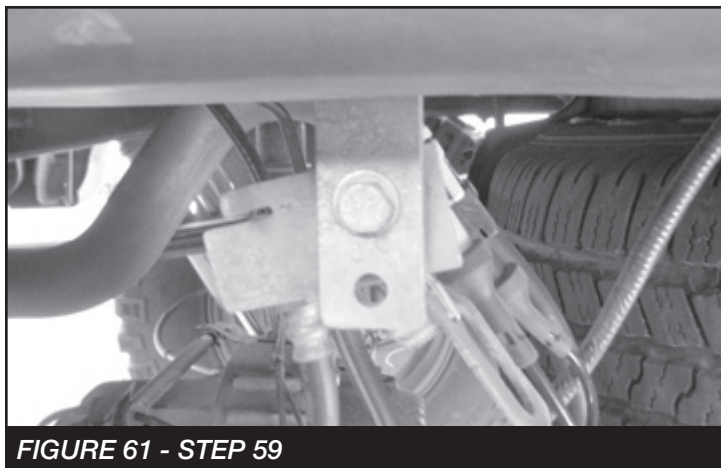

FIGURE 61 - STEP 59
59. Locate the factory brake line mount on the driver side of the frame. Locate the supplied brake line bracket (FT70033) and attach the bracket between the factory frame mount and the factory brake line. **SEE FIGURE 61**